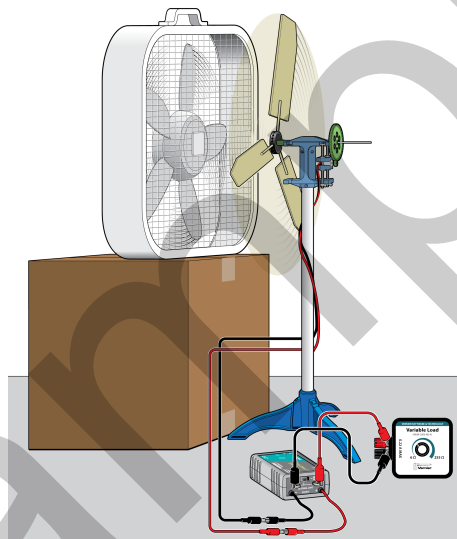

Figure 1
7. Set up the equipment (see Figure 1).